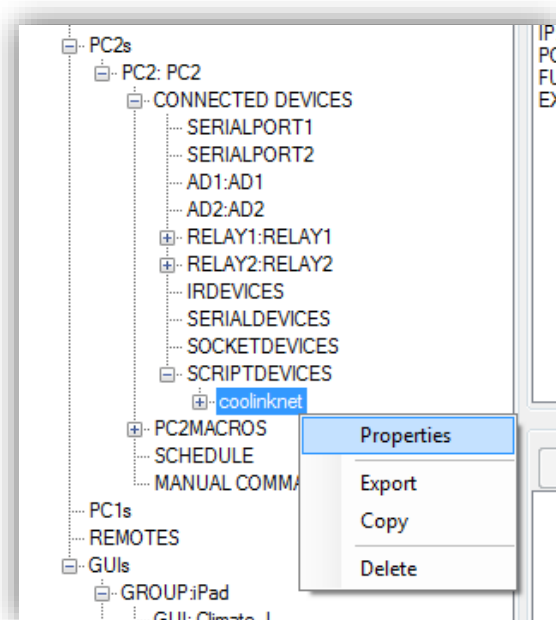

Figure 4 - Configuring device parameters: right click the device and select properties
- Right click on the newly added script device, and select “Properties”. *Refer to Figure 4*